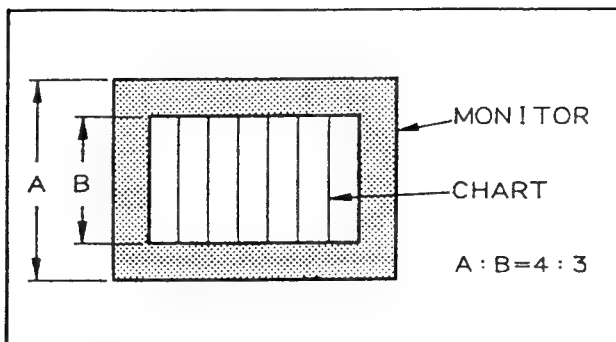

Fig. III-35
* Note: Turn the zoom ring to the wide angle side from a standard angle of view, and set the angle as shown in the Fig. III-35.